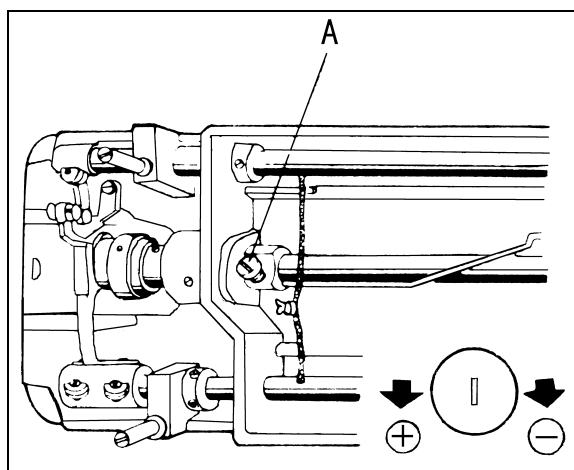

Fig. 30
21. LUBRICATION ADJUSTMENT (Fig.30)